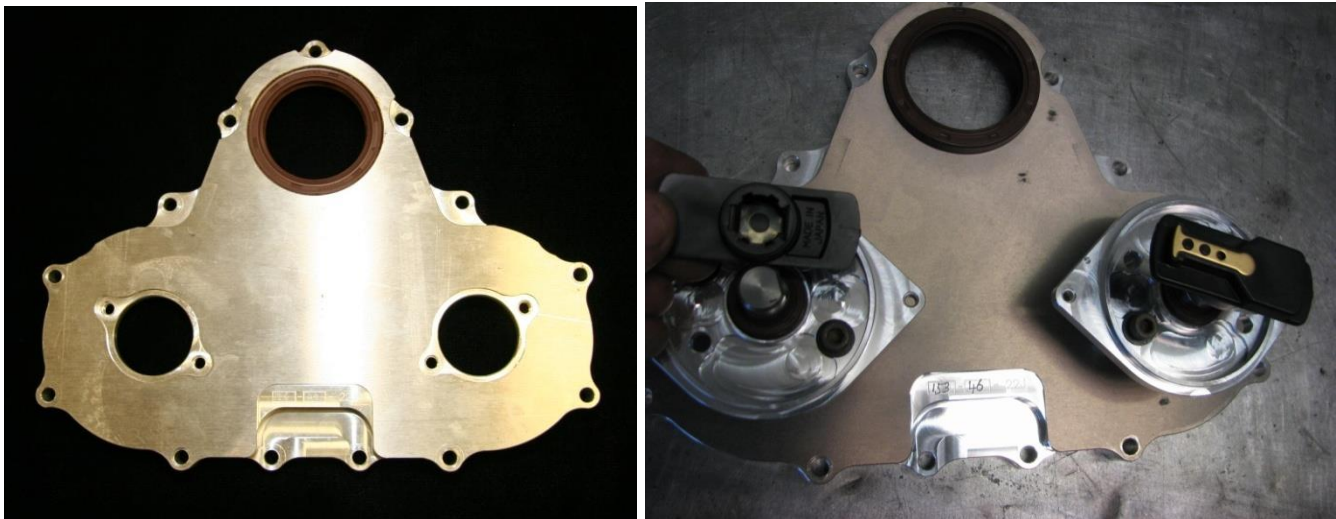

Figure 152 – Installation of Seals & Assembly
- Fresh seals must be fitted to the case and to the distributor mounts as shown in Figure 152. Note that later engines use a larger crankshaft timing gear and a thinner oil seal to suit. Oil seal size must be matched to fit the gear used.